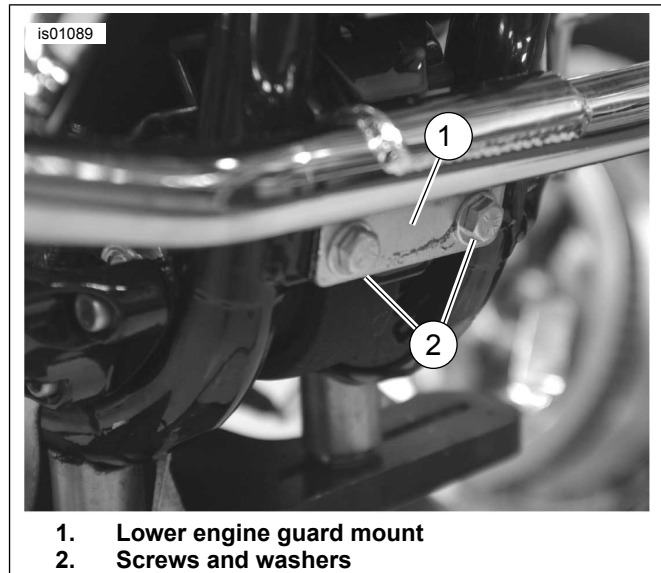
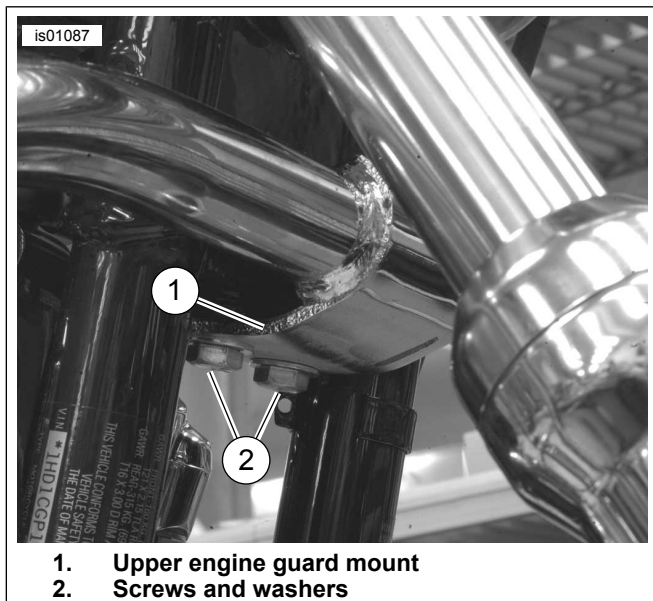

Figure 4. Mount Lower Section of Engine Guard
Figure 3. Mount Upper Section of Engine Guard
For Step 4, note that upper section of engine guard must be mounted between horn bracket and upper tie-link bracket. See Figure 3 noting that illustration does not show the horn mounting bracket.
4. Figure 3 illustrates mounting without horn bracket and horn in place. Place flat washers on screws. Obtain horn bracket with horn if present. While holding engine guard and horn bracket in place at upper crossmember, install screws with washers (2) through horn bracket, upper engine guard mount (1), tie-link mounting bracket and thread into holes in upper frame crossmember. Tighten just enough to hold the assembly snug and in place.
5. See Table 1. Obtain two 3/8-16 X 3/4 inch screws (2) and two flat washers from kit (3).
6. See Figure 4. Install flat washers onto screws. Install screws (2) through lower engine guard mount (1) holes and thread into lower crossmember holes. Tighten until snug only.